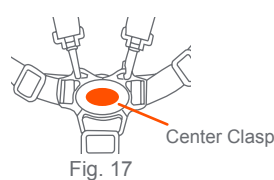

Fig. 17
- 17) • To release, push Button on Center Clasp, the two Harness Buckles will pop free (Fig. 17).